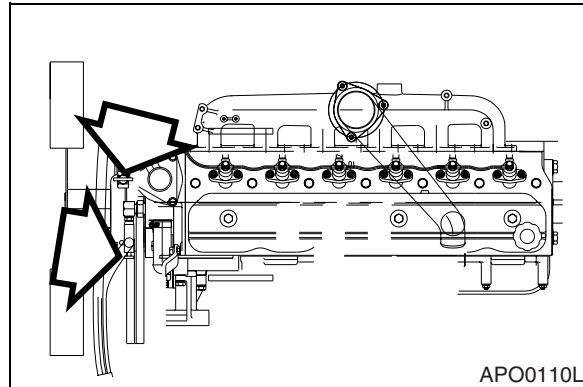

Figure 72
5. Open heater shutoff valve (Figure 72) to allow coolant to drain from heater core.